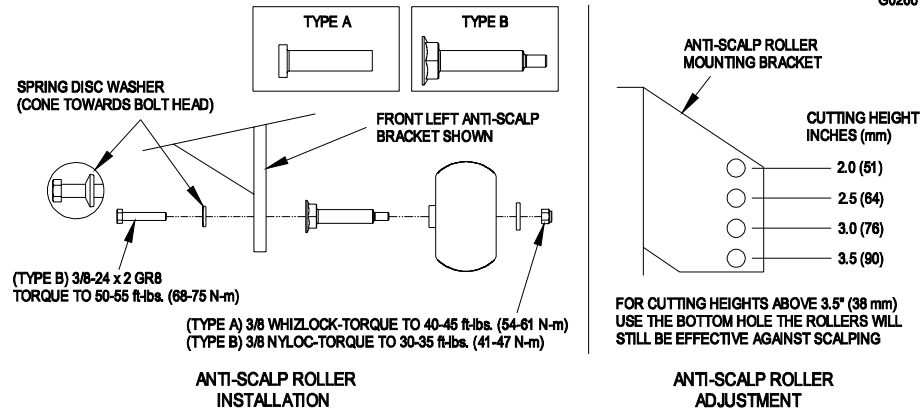

FIGURE 11
- g) Adjust anti-scalp rollers for Normal Operating Conditions. Place rollers in one of the positions shown in Figure 11. Rollers will maintain 3/4 in. (19 mm) clearance to the ground to minimize gouging and roller wear or damage.
Two types of anti-scalp roller assemblies are available. See Figure 11 to determine which assembly has been installed on the unit. Torque hardware as specified, or loss of roller may result.